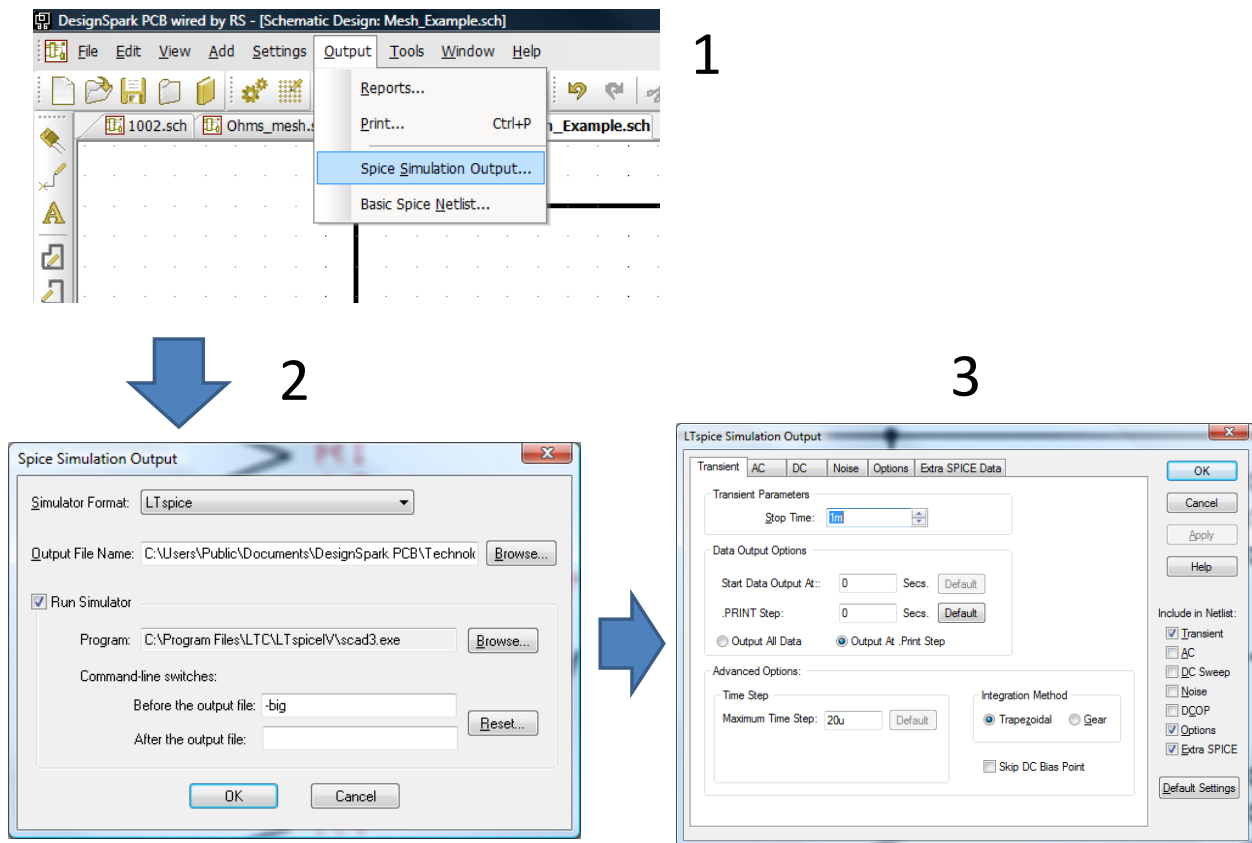

Figure 6-3: Simulation
2. Select the “Output” menu and “Spice Simulation Output” as shown in Figure 6-3 image 1.
4. In the “Program” field, browse to where the program is installed, as shown in Figure 6-3 image 2.
5. Selecting the “OK” button brings us to the “LTspice Simulation Output” selection screen as per Figure 6-3 image 3.